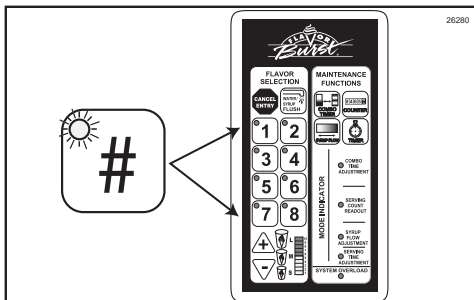

Figure 180
1. Select the numbered key of a flavor to adjust its dispensing concentration. (See Figure 180.)